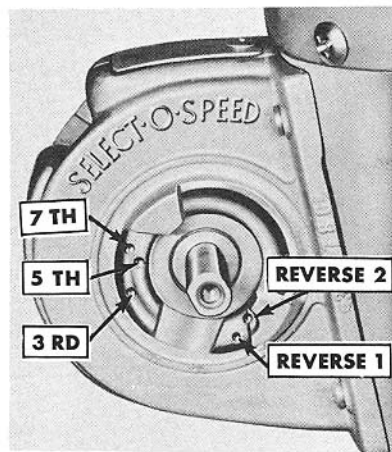

Figure 11
To move the selector lever to the opposite side of the shifter mechanism, take off both covers, Figure 3, by removing the Phillips head screw as shown at (1), Figure 11. Remove the selector lever from the shaft and position it on the shaft on the opposite side of the shifter mechanism. Switch the covers and reinstall with the Phillips head screws. Tighten securely.
**Selector Lever Stops:** Installation of the selector lever position stops enables the operator to establish a pre-determined shift pattern between two gears. These stops are especially convenient for loader and other material handling operations. The speed stop screws can be positioned in any two of the gears 3, 5, 7, R1, or R2, by inserting them in the holes provided as shown in Figure 11. These stops can be over-ridden to obtain any gear by pulling outward on the spring loaded selector lever and shifting to the desired gear. When selector stops are not desired, the stop screws should be placed in the holes on the side opposite the selector lever. Tractors will be shipped from the factory with the stop screws in this location.